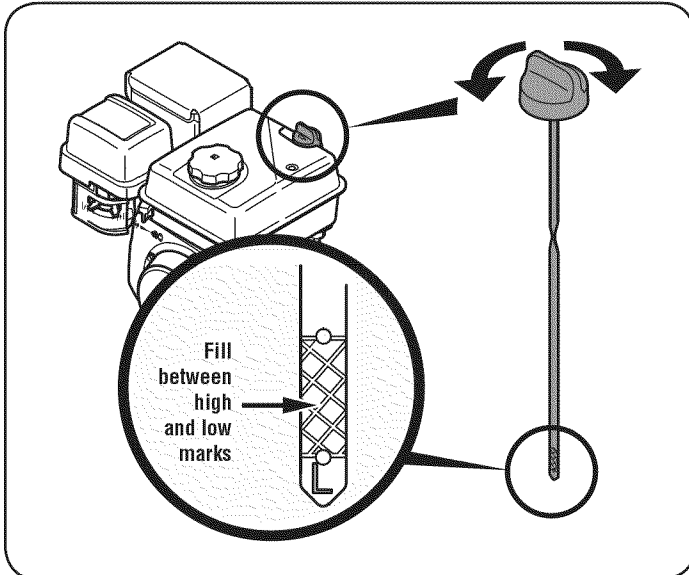

Figure 6
2. Remove the oil filler cap/dipstick and wipe the dipstick clean. See Figure 6.
4. Remove the oil filler cap/dipstick. If the level is low, slowly add oil until oil level registers between high (H) and low (L), Figure 6.